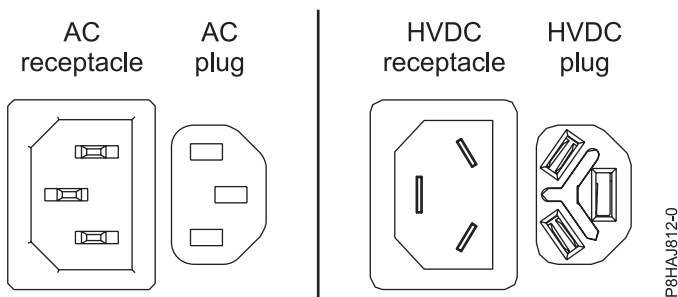
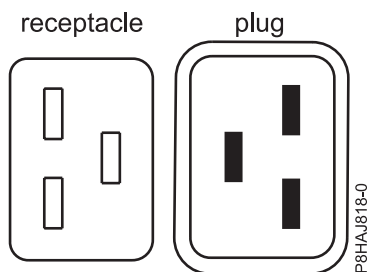
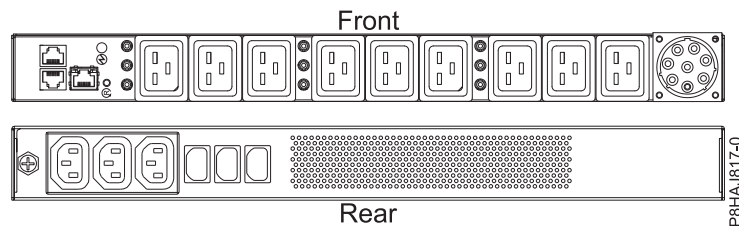

Figure 40. AC and HVDC connectors
Figure 41. Connectors for the 8408-44E system
Figure 42. PDU for the 8408-44E system
- The power cord is fastened to the system using the hook-and-loop fastener (A). If you are placing the system in a service position after disconnecting the power cords, then ensure that you unstrap the fastener.
Figure 40 shows the supported alternate current (AC) and high voltage direct current (HVDC) connectors. Figure 41 and Figure 42 show the supported connectors and power distribution unit (PDU) for 8408-44E.